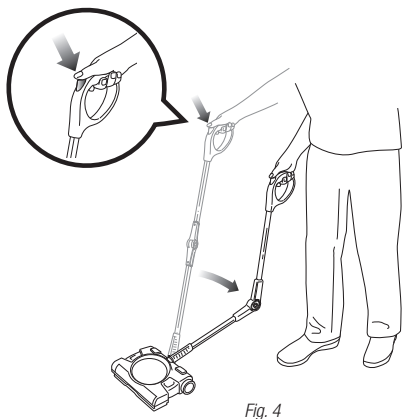

Fig. 4
- 5 The Shark® Backsaver™ folding handle makes cleaning under furniture a breeze. Just press the button on the handle with your thumb to engage the Shark® Backsaver™ function. (fig. 4)